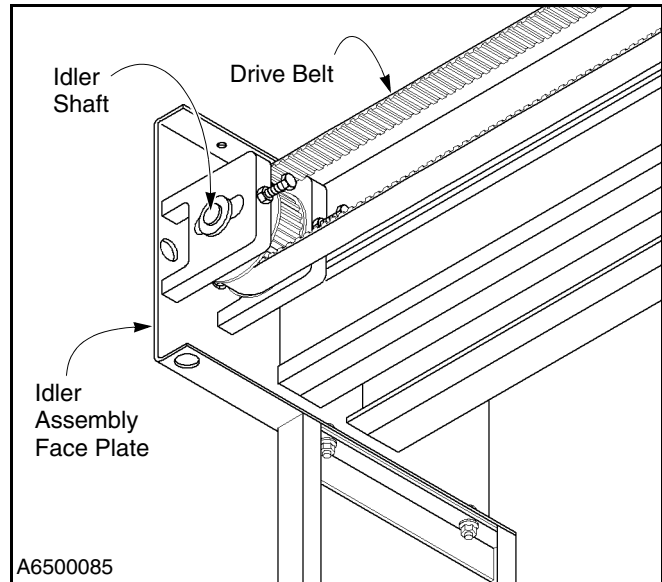

Figure 33
IMPORTANT: When positioning the idler shaft, keep the shaft parallel with the face plate of the idler assembly. If the pulley is already aligned, turn each tension adjuster the same amount. This ensures the tension pulley remains aligned with the drive pulley at the opposite end of the head assembly. (See Figure 33.)
4. Once belt tension is set, verify that both tension adjusters are tight against the idler shaft to lock the tension pulley in place. (See Figure 33.)